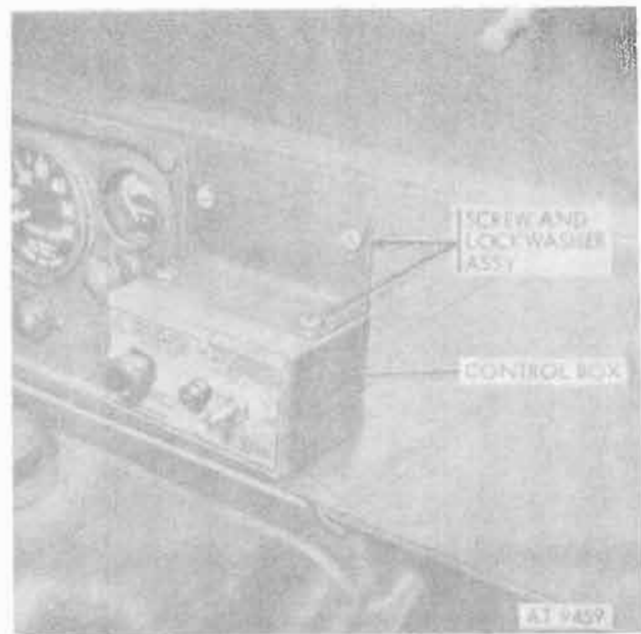

Figure 18-19. Control box installation.
b. Installation of Control Box (fig. 18-19).
(1) Attach bracket to control box assembly using two 1/4-20-x1/2 roundhead screws and lockwashers.
(2) Attach control box and bracket assembly to 9/32-inch holes in dash panel to right of instrument cluster, using two 1/4-20x1/2 roundhead screws, lockwashers, and nuts.